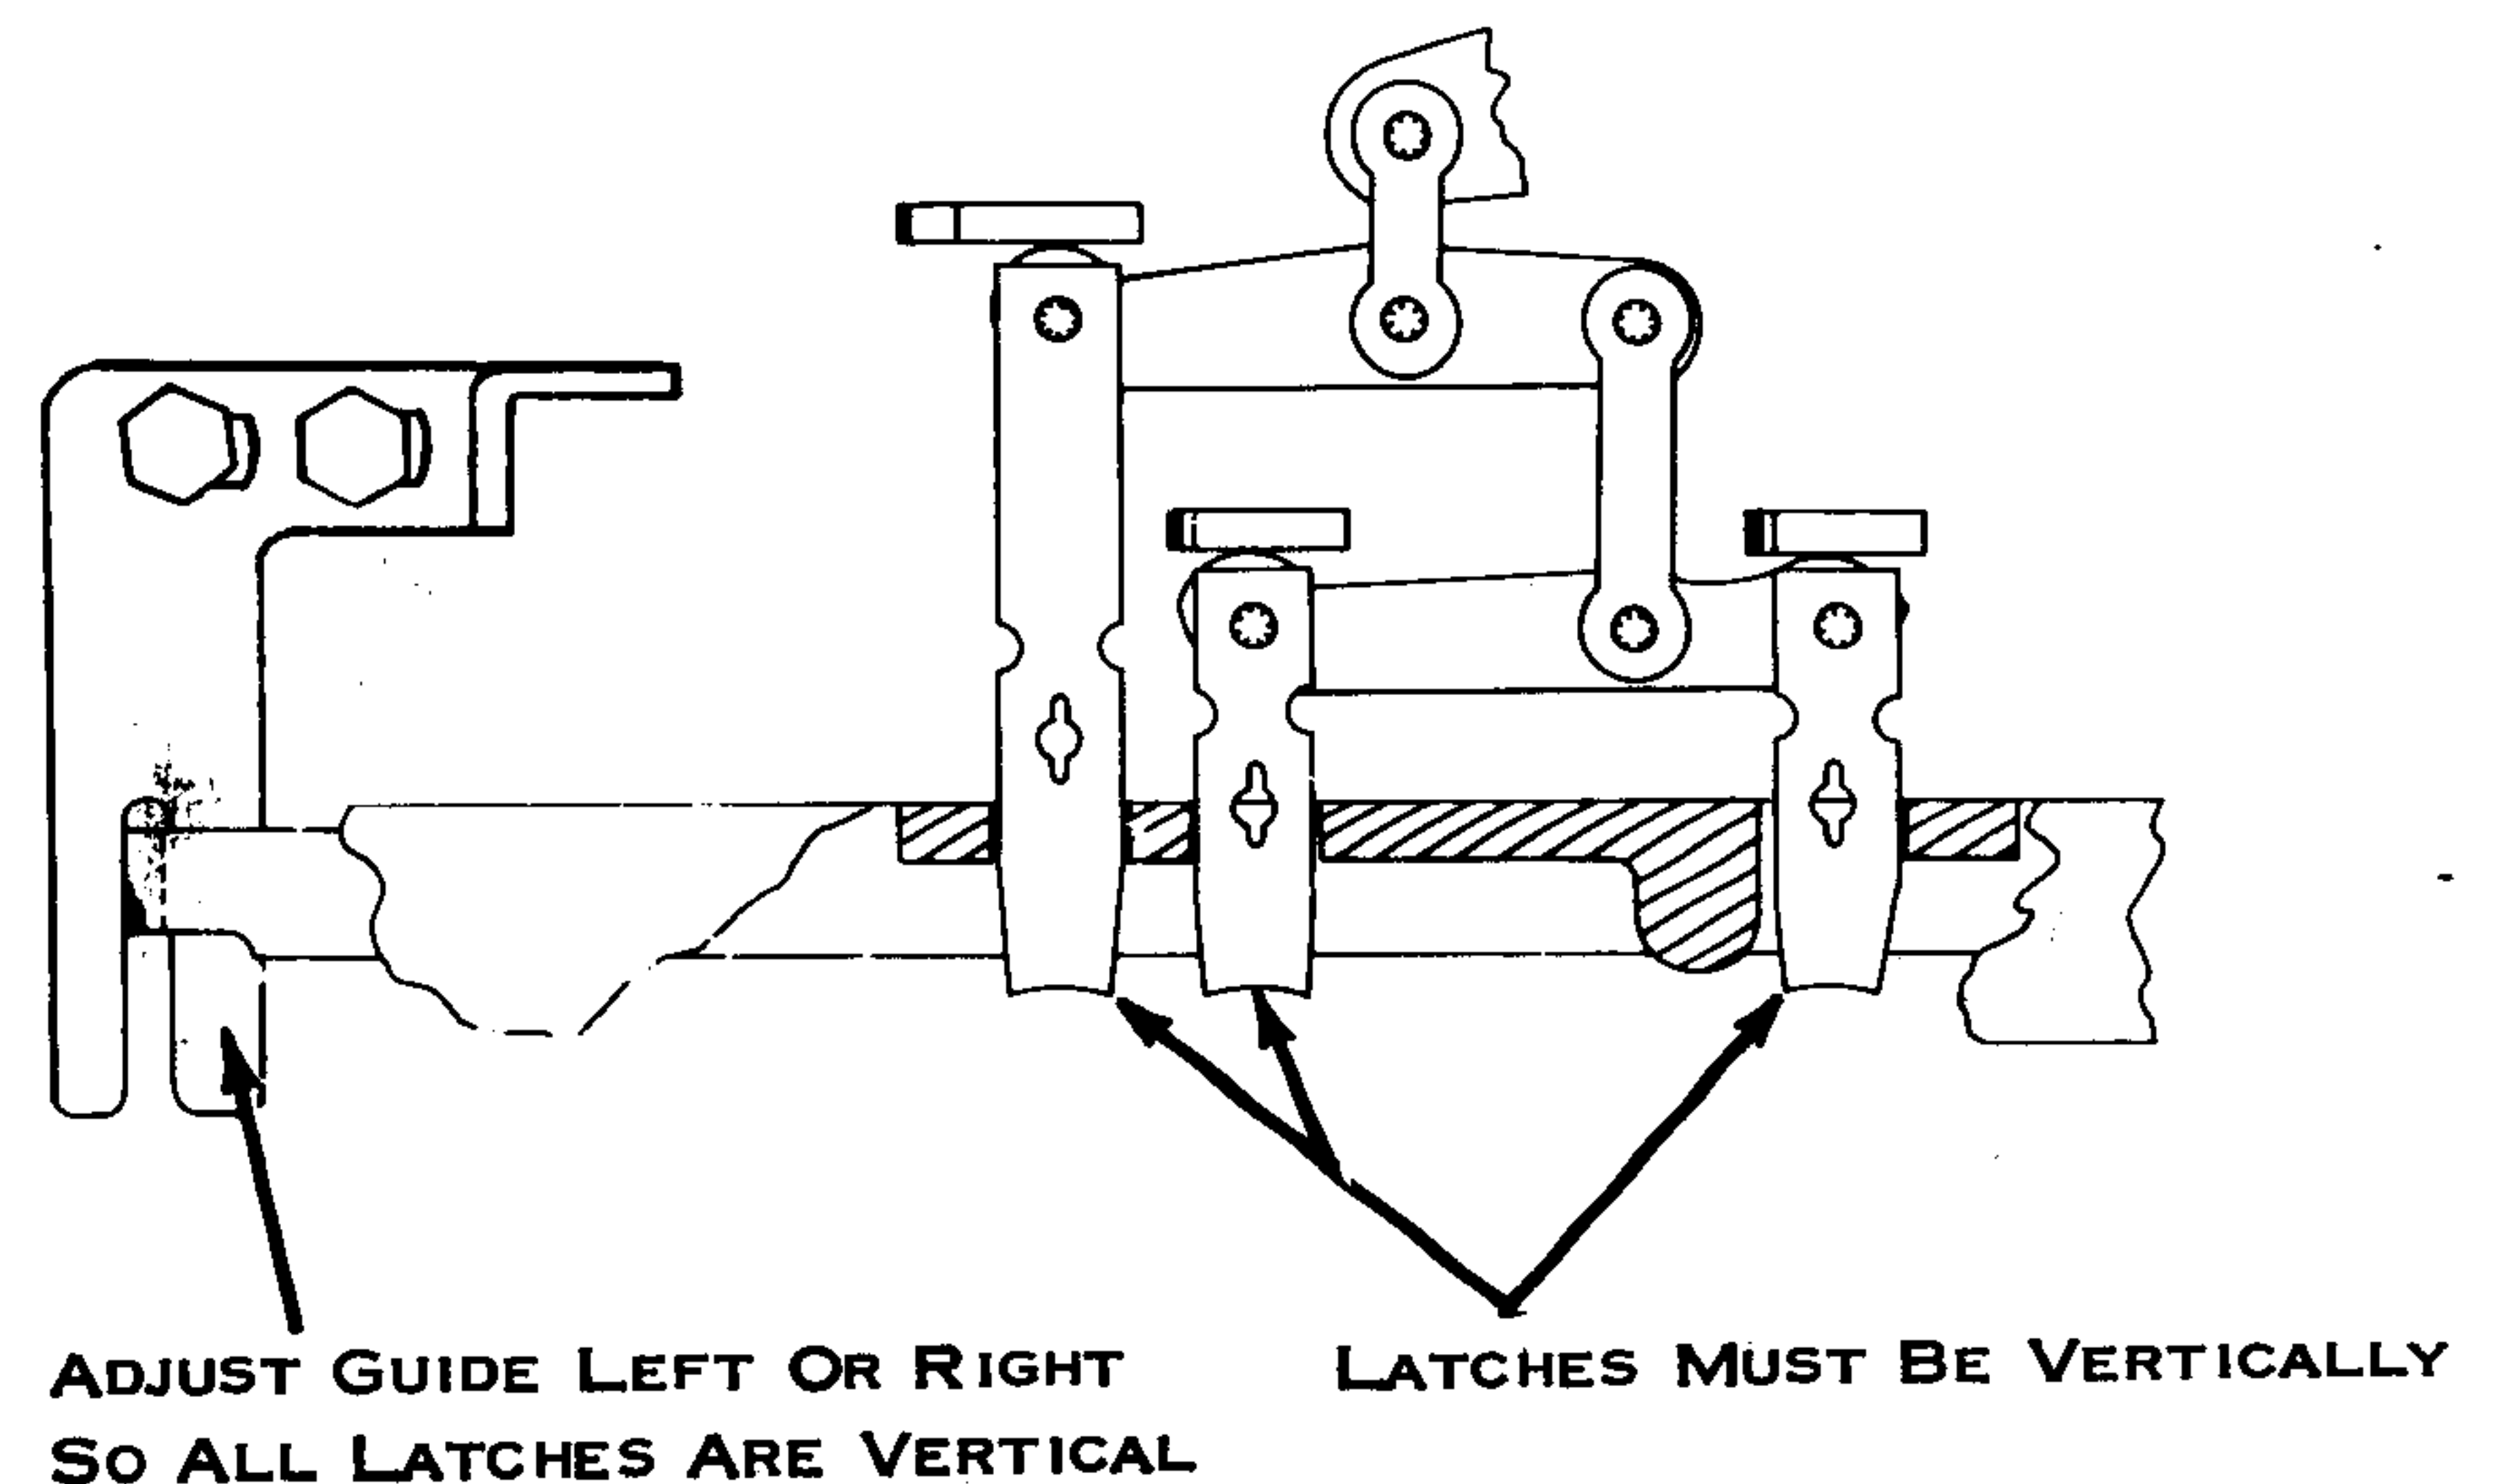

Figure 51. Latch Bail Guide
3. Latch Bail Guide - Adjust left or right so that all selector latches hang vertically (Fig. 51).